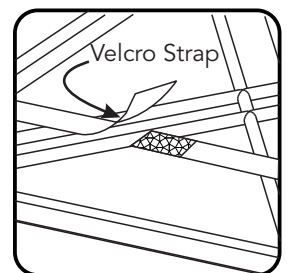

Figure 5
Attach Cushion (A) to unit with velcro straps. (See Figure 5)